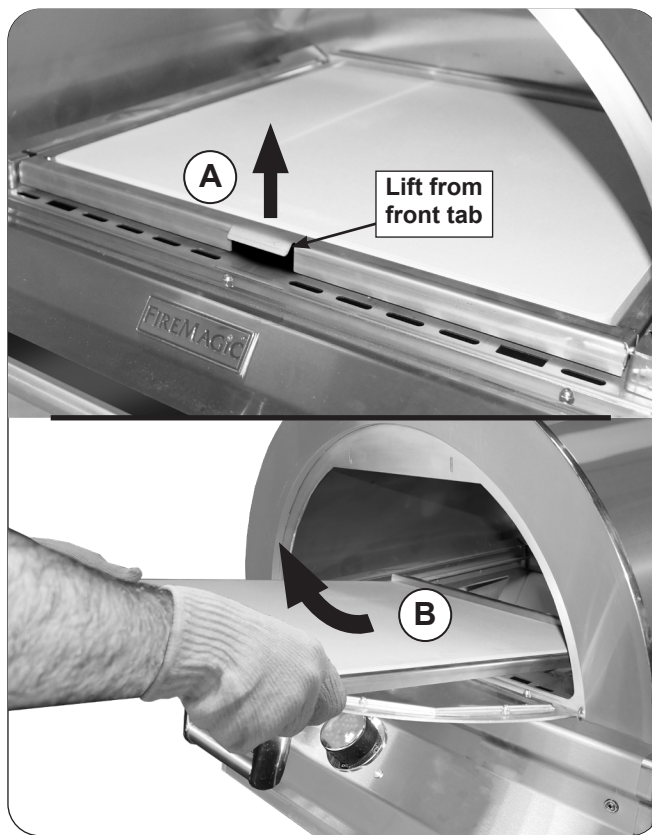

Fig. 41-2 Stone/frame removal
2. Grasp the center front tab of the pizza stone support frame and carefully lift upward to free the notches from the left and right side rail pegs (see Fig. 41-2, A).
4. Reposition your hands from the front tab to the sides of the frame. Lift the frame upward and out of the oven. See Fig. 41-2, B.